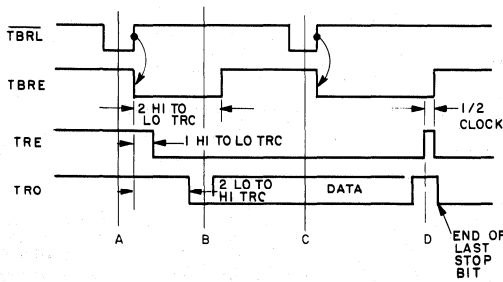

Fig. 3 - Transmitter timing waveforms.
Transmitter timing is shown in Fig. 3. (A) Data is loaded into the transmitter buffer register from the inputs TBR1 through TBR8 by a logic low on the TBRL input. Valid data must be present at least t_{D1} prior to, and t_{D2} following, the rising edge of TBRL. If words less than 8 bits are used, only the least significant bits are used. The character is right justified into the least significant bit, TBR1. (B) The rising edge of TBRL clears TBRE. One Hi to Lo transition of TRC later, data is transferred to the transmitter register and TRE is cleared. TBRE is reset to a logic High one Hi to Lo transition after that.